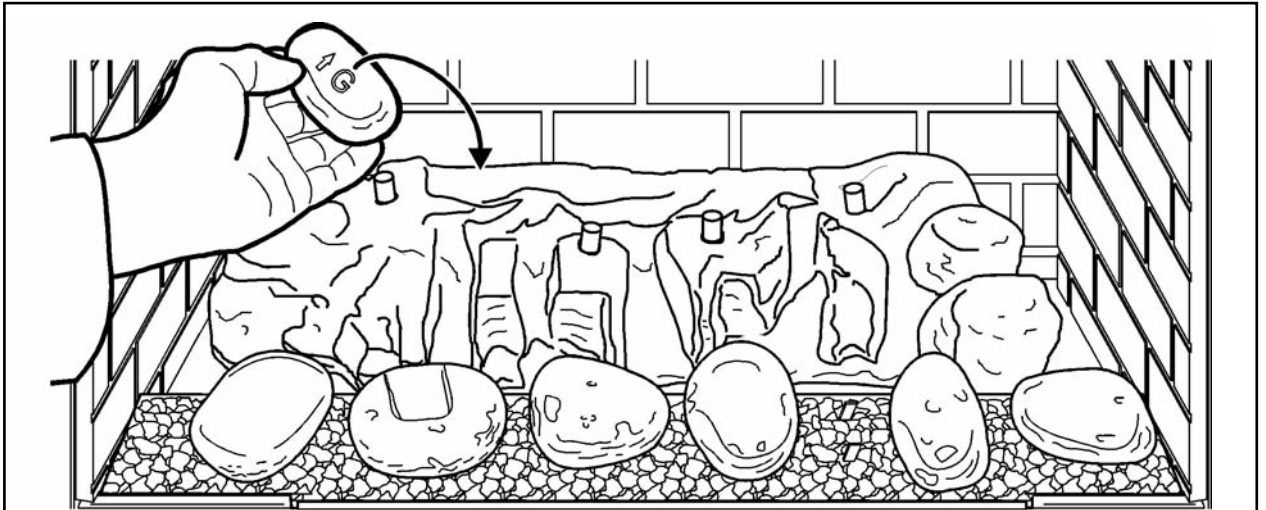

Figure 10. Fitting pebble 'G'
10. Hold pebble 'G' as in figure 10 so that the arrow points towards the rear of the fire. Locate pebble 'G' onto the top of the fuel effect base as in figure 10.